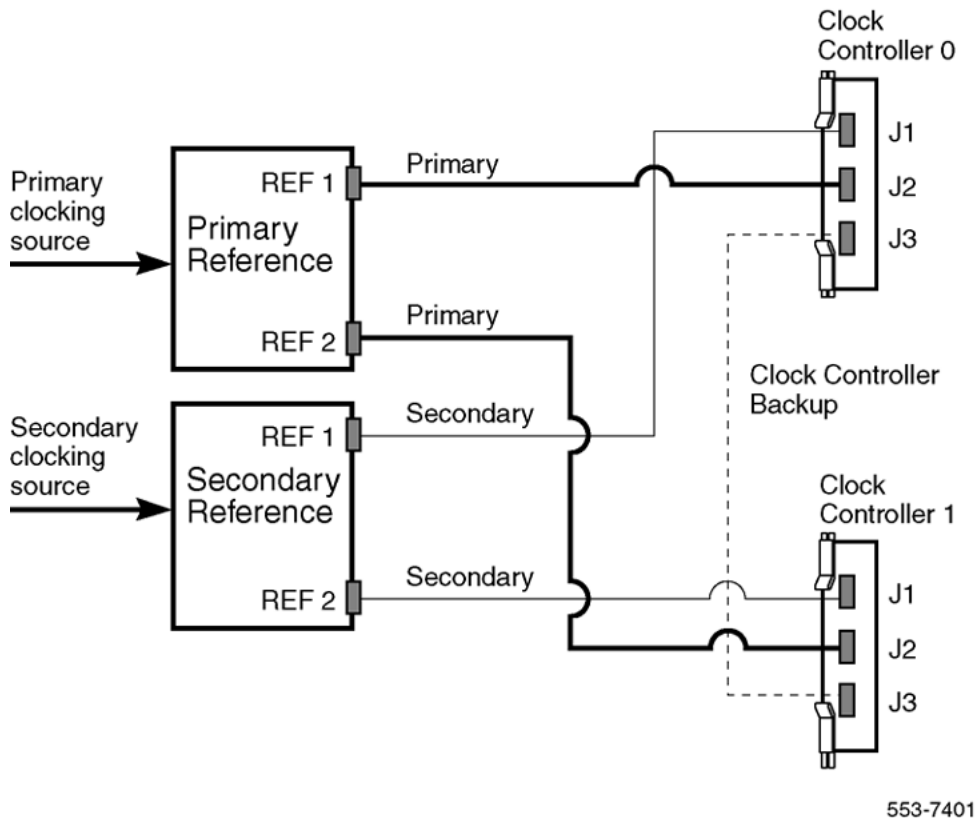

Figure 14: Clock controller primary and secondary tracking
In tracking mode, the PRI loop supplies an external clock reference to a clock controller (CC). See Figure 14: Clock controller primary and secondary tracking on page 78. Two PRI loops can operate in tracking mode, with one defined as the primary reference source for clock synchronization, the other defined as the secondary reference source. The secondary reference acts as a backup to the primary reference.
As shown in Figure 14: Clock controller primary and secondary tracking on page 78, a system with a dual CPU can have two clock controllers (CC0 and CC1). One clock controller acts as a backup to the other. The clock controllers should be locked to the reference clock.